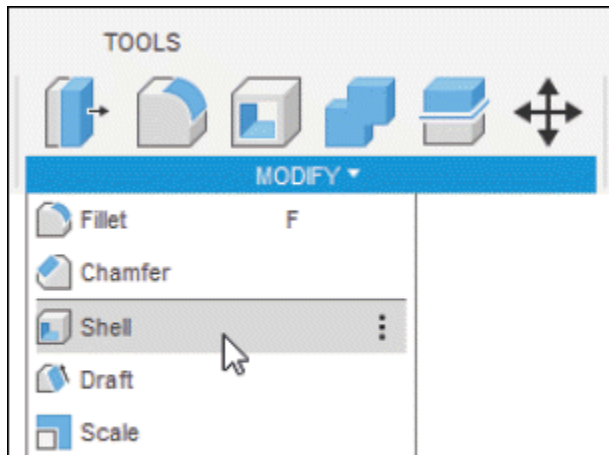
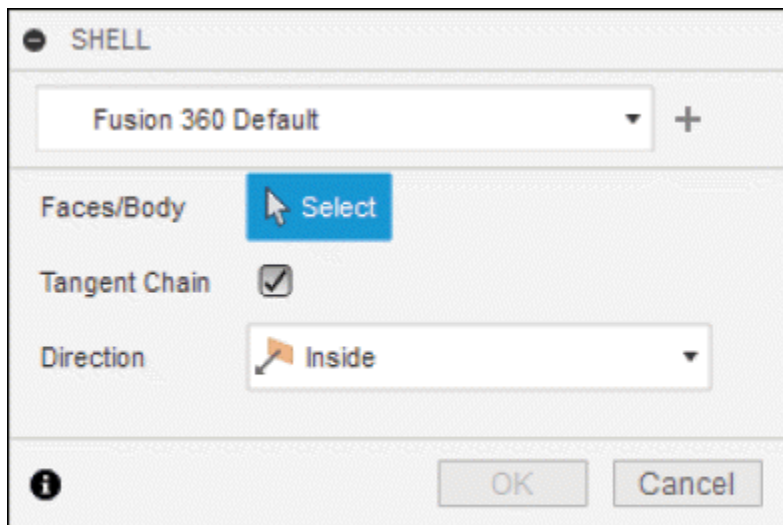

Figure-24. Shell tool
Figure-25. SHELL dialog box
- Select **Shell** tool of **MODIFY** drop-down from **Toolbar**; refer to Figure-24. The **SHELL** dialog box will be displayed; refer to Figure-25.